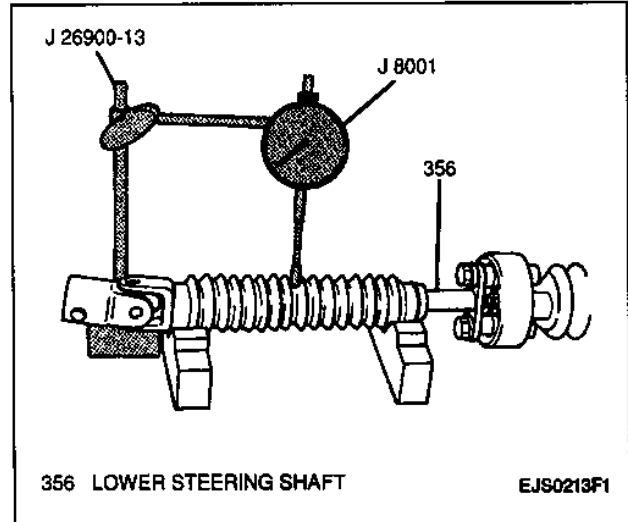

Figure 25—Measuring Lower Steering Shaft Runout
3. Lower steering shaft runout using a J 8001 and a J 26900-13 (Figure 25). To ensure accuracy, clean area of the lower shaft where measurement will be taken. If runout exceeds specified limits, replace it with a new one.